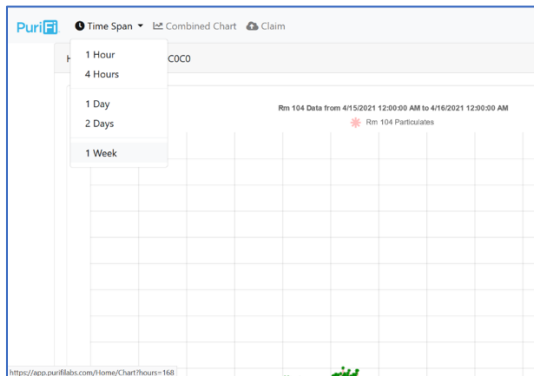

Fig. 1. Adjust the time span.
- Time Span: You can choose from 1 hour up to 1 week of data shown on the graphs below (Fig. 1)